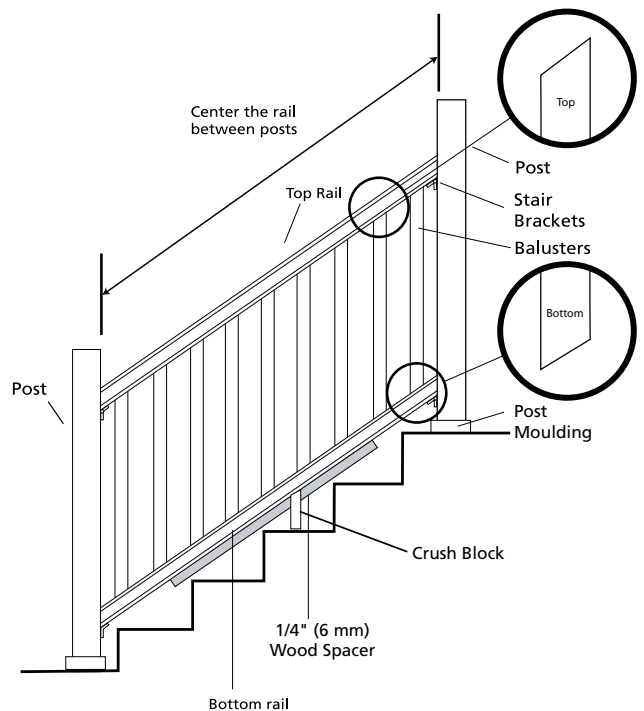

Figure 28
8. Ensure that the post moulding is in place at the bottom of the posts (Figure 28).
12. Lay the bottom rail, with the routed holes upward, onto a 1/4" (6 mm) wood spacer located between the posts (Figure 28). This provides the rail spacing between the rail and stair treads and helps to stabilize the setup.
15. Cut a crush block from a baluster to the desired height. (Consult local building official for the proper spacing between the deck and the railing). Place crush block on the stair tread surface midway between the posts (Figure 28).
19. Mark the stair angle on one end of each baluster to be used (Figure 28).
20. Cut the composite square baluster at an angle on the top and bottom of each baluster (Figure 28).
21. Fully insert the top ends of the balusters into the routed holes of the top rail. The angled cut of the baluster should be parallel with the length of the top rail. (Figure 28).